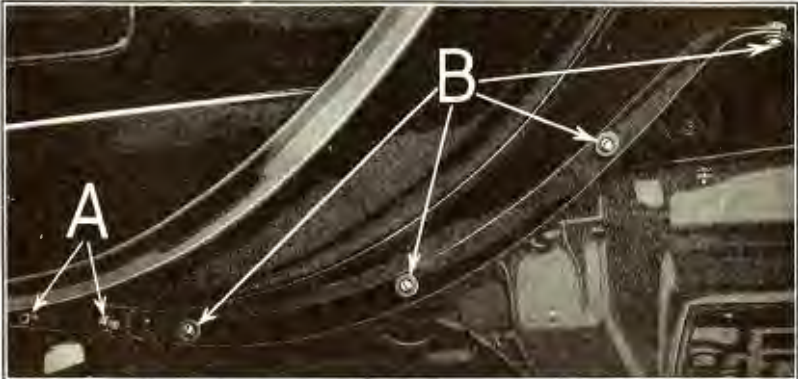

Fig. 534
- 1137 Run off the nuts on the ends of the two front fender to running board bolts (see "A" Fig. 534) and withdraw the bolts.
- 1141 Place flat washers over the ends of the four front fender to dust shield bolts and insert the bolts through fender and dust shield (see "B" Fig. 534). The bolts are locked in position by means of a flat washer and a lockwasher which are placed over the ends of each bolt and nuts run down but not tightened until all bolts are entered.
- 1142 Insert the two fender to running board bolts through running board and fender (see "A" Fig. 534). Place lockwashers and nuts over the ends of the bolts and run down nuts but do not tighten until all bolts are entered.
- 1168** **Removing.** Run off the nuts on the ends of the two front fender to running board bolts (see "A" Fig. 534) and withdraw bolts.
- 1174 Insert the two front fender to running board bolts through running board and fender. Place lockwashers over the ends of the bolts and run down and tighten nuts (see "A" Fig. 534).
- 1180 Run off the nuts on the ends of the four front fender to dust shield bolts (see "B" Fig. 534) and withdraw the bolts.
- 1189 Place flat washers over the ends of the four front fender to dust shield bolts and insert the bolts through fender and dust shield (see "B" Fig. 534). Place a flat washer and lockwasher over the end of each of the bolts and run down nuts tightly.